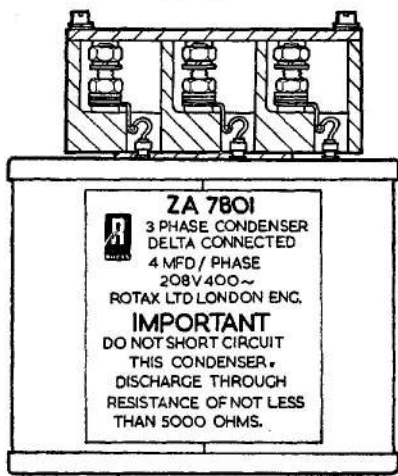

Fig. 1. 3-phase condenser unit, Type ZA 7801
3. The unit (fig. 1) consists of three banks of four 1 μ F capacitors suitably interconnected to give a capacity of 4 μ F per phase